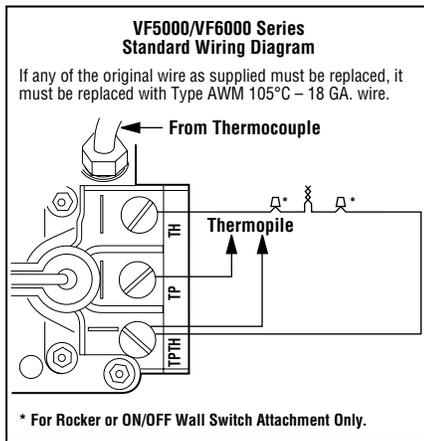
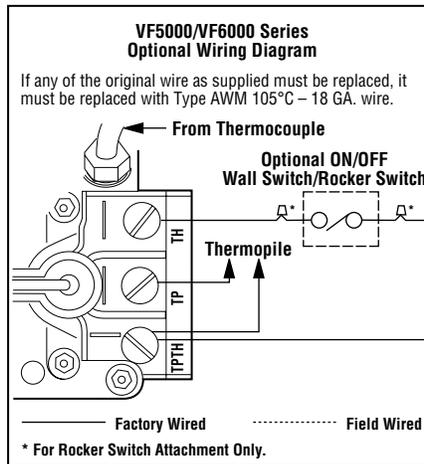

Figure 13
Figure 14
**Step 6. Installing the Optional Remote Wall Switch –** The standard millivolt system comes from the factory wired as shown in *Figure 13*. Select a convenient location for the remote wall switch and connect the wiring to the appliance (*Figure 14*).
An optional wall switch kit can be installed along with all vent-free appliances. The kit consists of a standard UL wall switch with cover plate. This kit provides for remote (wall) operation of the appliance. Replace the wall switch and cover plate of this kit with the components of the FWSK and you can have true remote control of your vent-free appliance, turning it on and off from your favorite easy chair. The wall switch kit should be installed along with the appliance. Refer to *Figure 14* and Step 6 for detailed installation instructions.